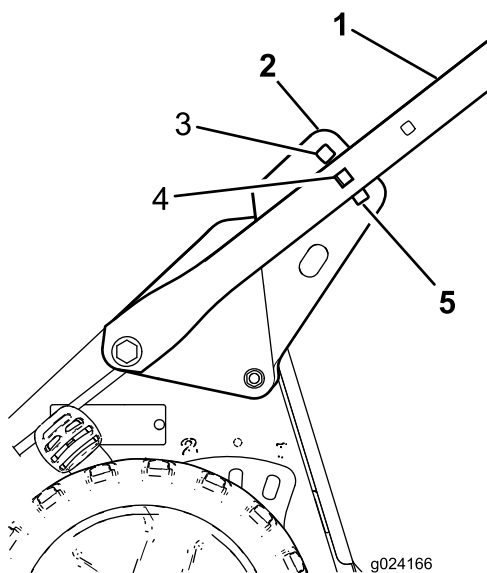

Figure 5
5. Stand in the operating position to determine the handle height that is most comfortable for you (Figure 5).